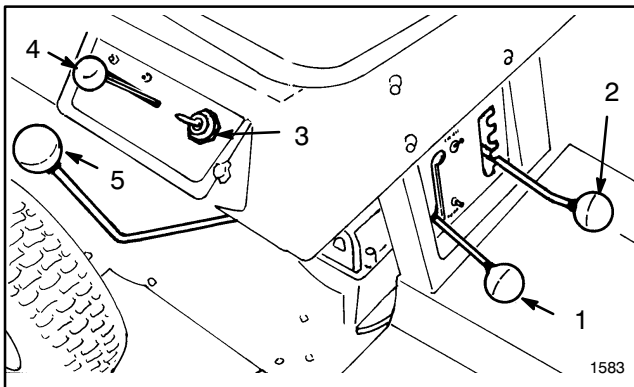

Figure 5
Gear Shift (Fig. 5)—The transmission has five forward speeds, neutral, and reverse. The gear shift lever is located on right side of operator. An interlock switch, which prevents engine from being started when transmission is in gear, is mounted on top of transmission.
Blade Control (Fig. 5)—Blade control engages and disengages the cutter blade. An interlock switch prevents engine from starting when control is in the ENGAGE position. Engine will start when control is in the DISENGAGE position only.
Throttle Control (Fig. 5)—Throttle control connects to and operates carburetor-mounted throttle and choke. Control has three positions: SLOW, FAST and CHOKE.
Height-of-Cut (Fig. 5)—Height-of-cut control varies the cutting height from approx. 1-1/2 to 3-1/2 inches in five increments.
2. Move gear shift into neutral and blade control into DISENGAGE detent (Fig. 5).
3. Move throttle control to CHOKE position (Fig. 5) when starting a cold engine. However, a hot engine
4. Rotate ignition key (Fig. 5) to START position. When engine starts, release the key and move throttle between FAST and SLOW if choke was used for starting. Operate the rider with throttle control in FAST (full throttle) position for best performance.
1. Move blade control into DISENGAGE detent (Fig. 5).
2. Move height-of-cut control (Fig. 5) into desired setting.